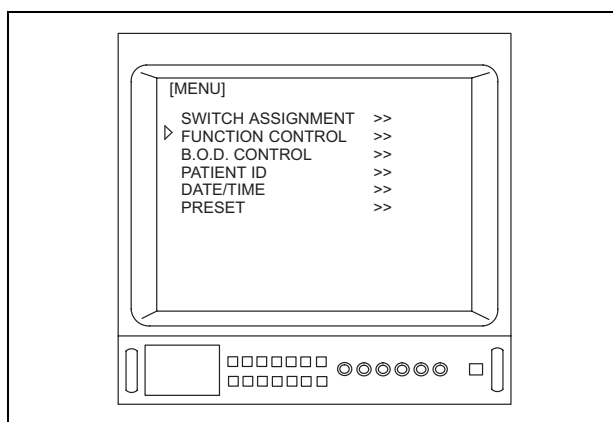

Figure 5.14
2. Depress the menu switches “” or “”, or the “” key on the keyboard to move the arrow “” to “FUNCTION CONTROL” (see Figure 5.14).
- When using a type A OTV-S7V, “B.O.D. CONTROL” (see Figure 5.14) is not displayed.
- When the OTV-S7H-1D-F08E/L08E/D-L08E is connected to the OTV-S7V, “SWITCH ASSIGNMENT” (see Figure 5.14) is not displayed.